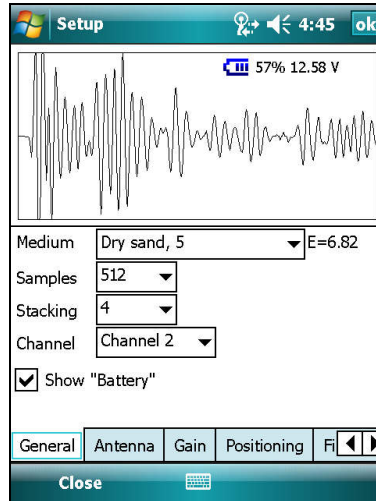

Fig. 7.3. Georadar settings window
1. **General** – main georadar settings (see Fig. 7.3):